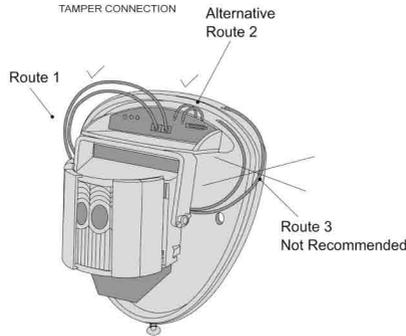

fig. 7
3) Feed standard 12 core alarm cable into the cable entry; bare the wires and connect to the removable terminal block as shown in fig. 7. Screw the unit to the wall ensuring that the tamper pin is correctly located and that the tamper microswitch is closed. **See fig. 4 and 5.** To aid installation, two spare tamper feet are provided. One is 1mm longer and the other is 2mm longer than the tamper foot originally fitted. The tamper foot is a push fit and can be removed by carefully pulling it from the pin. **See fig. 2.**